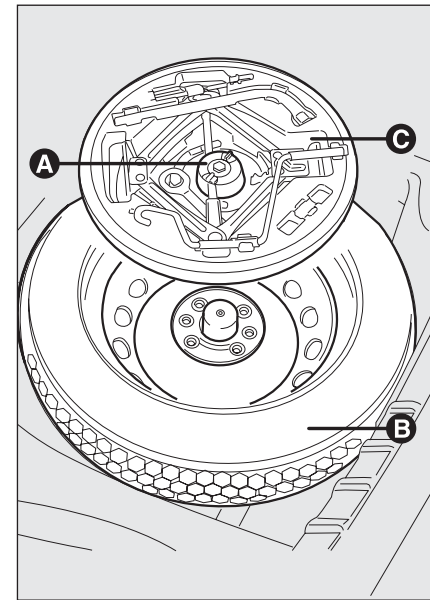

fig. 2
- loosen the fastener **A-fig. 2**;
- take out the tool box **C-fig. 2** and take it near to the wheel to be changed;
- take the spare wheel **B-fig. 2**;
- fit the jack partially open in its box **C-fig. 2** forcing it lightly to prevent it from vibrating when travelling;
- stow the container **C-fig. 2**, complete with tools in the spare wheel;
- tight the tool box fastener **A-fig. 2**;